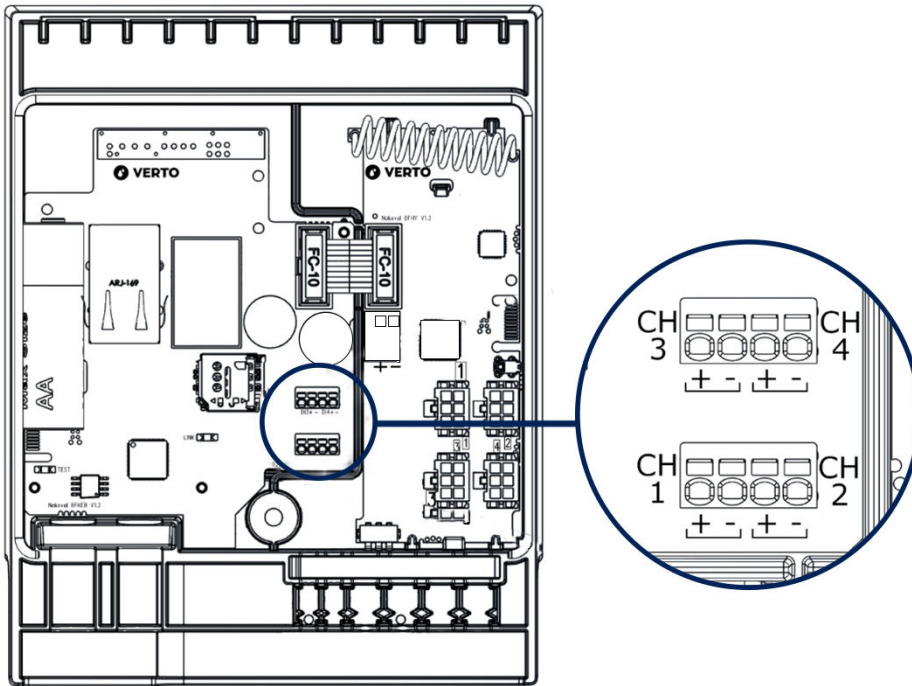

Figure 1: Channels 1–4 in the connection table of the collection unit
1. Connect any impulse sensors located in the same building, such as the main water meter, to channels 1–4 in the connection table of the collection unit, see Figure 1.